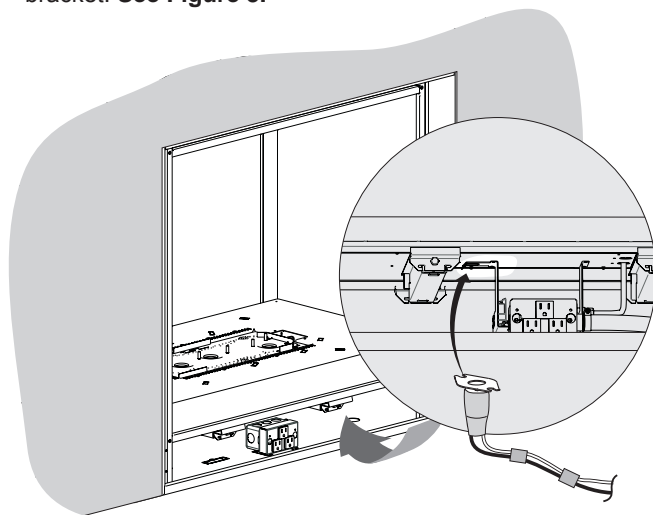

Figure 3
5. Snap the fan control disc into the forked prongs on the valve bracket. **See Figure 3.**